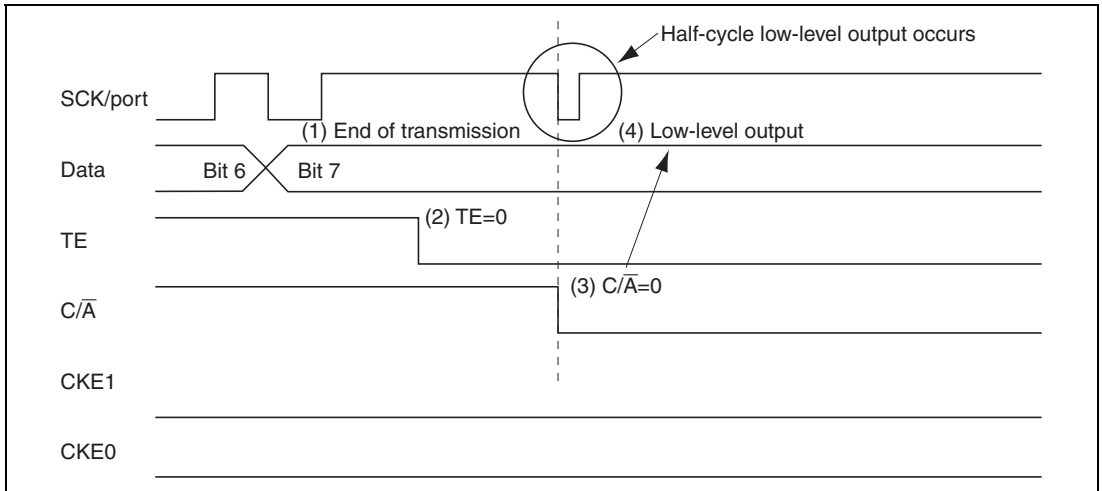

Figure 11.23 Operation when Switching from SCK Pin Function to Port Pin Function
- (1) End of serial data transmission
- (2) TE bit = 0
- (3) C/\bar{A} bit = 0 ... switchover to port output
- (4) Occurrence of low-level output (see figure 11.23)